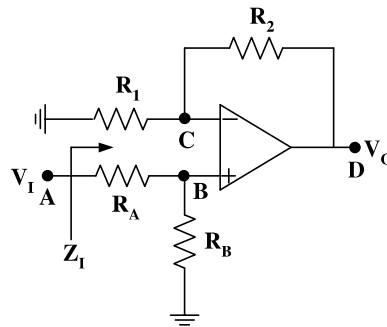

Figure 3. A non inverting amplifier circuit using 741 Op Amp.
2. DESIGN OF AMPLIFIER CIRCUIT: Design the non inverting amplifier circuit as shown in Figure 3 (determine the values of the resistors) so that the closed loop gain is  $\frac{V_o}{V_i} = \frac{R_2}{R_1} = 5$ . The available set of resistance that you can use is  $100\Omega$ ,  $1K\Omega$ ,  $2.2K\Omega$ ,  $3.3K\Omega$ ,  $5.6K\Omega$ , and  $10K\Omega$ . For design safety, take  $R_2$  as high as possible. For proper operation of the amplifier circuit, assume that  $R_A = R_1$  and  $R_B = R_2$ . In your design, if exact value of resistance is not available, choose the nearest one. With your design, set  $V_i$
6. Set up the circuit as shown in Figure 3 using the resistances from your prelab design. Use a +15V DC power supply to terminal 7 and -15V DC power supply to terminal 4 of the Op Amp from the digital trainer board.